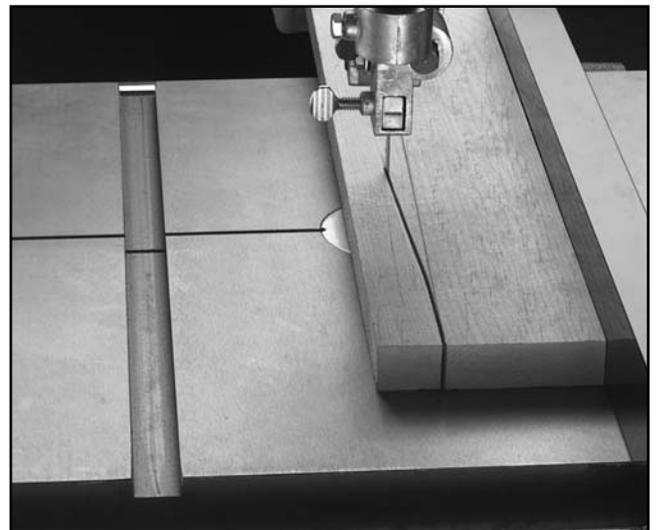

Figure 28. Blade leading away from line of cut.
Most bandsaw blades will not appear to cut straight when using the fence or miter gauge. This is called “lead.” (See **Figure 28.**) Lead occurs (1) if the blade tension is incorrect, (2) if the teeth are dull on one side, or (3) if the teeth are set heavier on one side of the blade than the other.